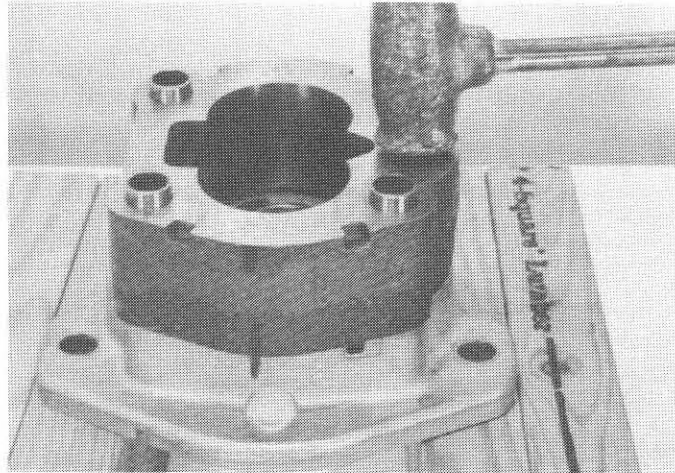

FIG. 21
30. Turn the gear plate so that the cast recesses in its outer edge faces up and align its matching mark (step 2) with the mark on the flange plate. Match dowels with bores in the flange plate. Tap the gear plate lightly with the plastic hammer until it rests on the o-ring in the flange plate. (Fig. 21)